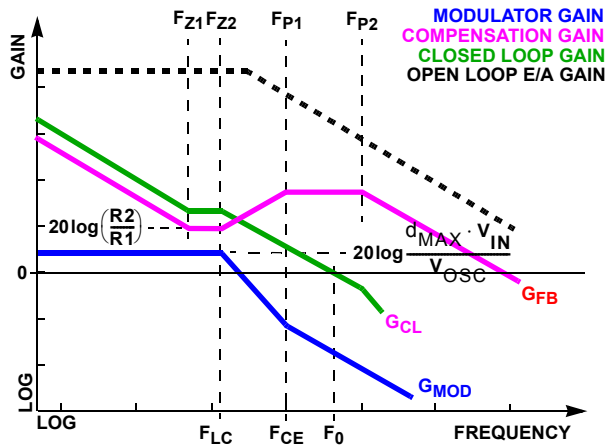

FIGURE 15. ASYMPTOTIC BODE PLOT OF CONVERTER GAIN
Figure 15 shows an asymptotic plot of the DC/DC converter's gain vs. frequency. The actual Modulator Gain has a high gain peak dependent on the quality factor (Q) of the output filter, which is not shown. Using the previously mentioned guidelines should yield a compensation gain similar to the curve plotted. The open loop error amplifier gain bounds the compensation gain. Check the compensation gain at F_{P2} against the capabilities of the error amplifier. The closed loop gain, G_{CL} , is constructed on the log-log graph of Figure 15 by adding the modulator gain, G_{MOD} (in dB), to the feedback compensation gain, G_{FB} (in dB). This is equivalent to multiplying the modulator transfer function and the compensation transfer function and then plotting the resulting gain.